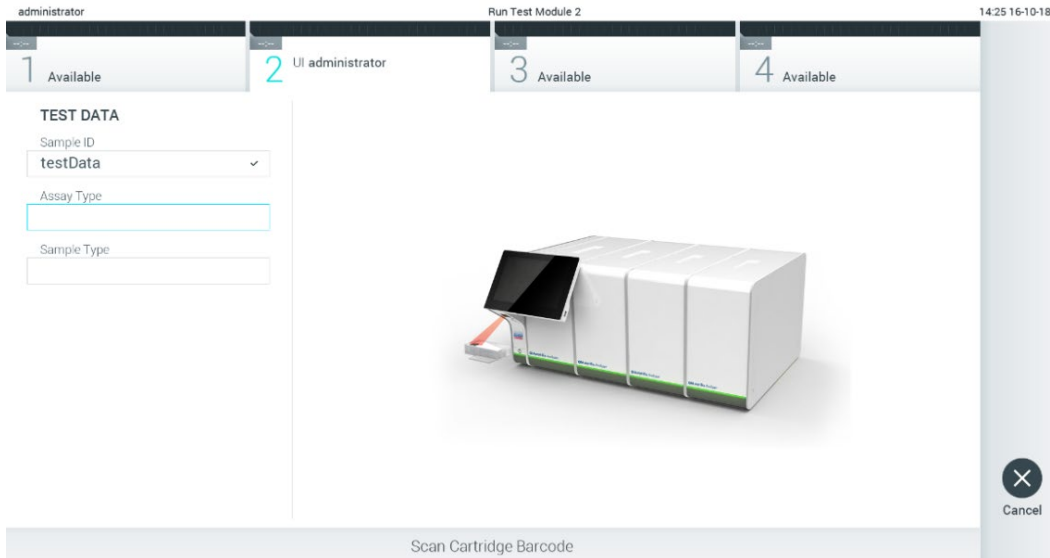

Figure 24. Scanning the QIAstat-Dx assay cartridge bar code.
3. When prompted, scan the bar code of the QIAstat-Dx assay cartridge to be used. The QIAstat-Dx Analyzer 1.0 automatically recognizes the assay to be run, based on the QIAstat-Dx assay cartridge bar code (Figure 24).
**Note:** If External Control (EC) is enabled and an EC test is due or the previous one for the selected assay failed on the selected module, a warning is shown. Users need to confirm if they want to proceed, and basic users cannot continue with the test setup. Refer to Section 8 for further details.